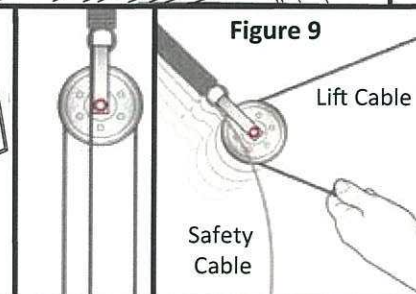

Figure 9
Step 9: Run the Lifting Cable back to the Pulley attached to the spring and loop the cable over the top, going through the Sheave (Fig 9).